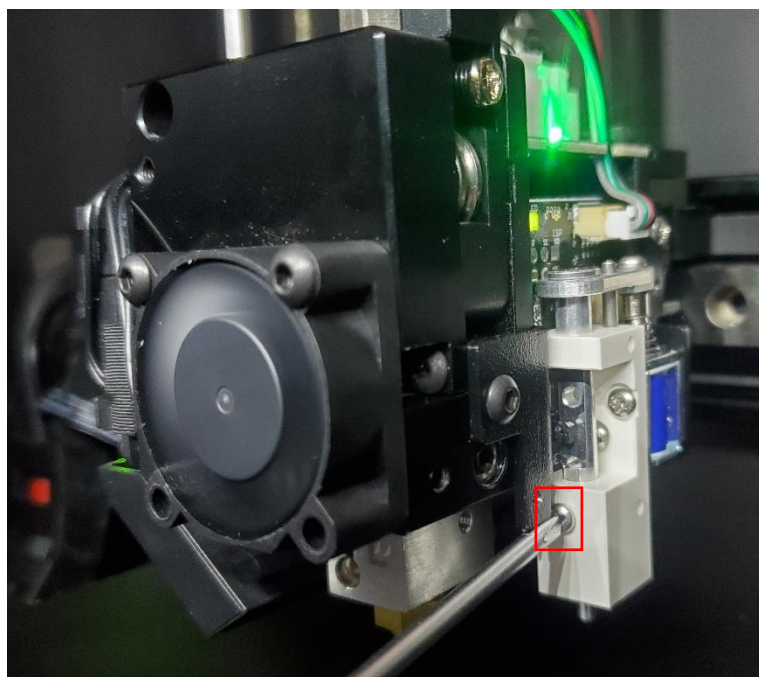

Figure 10: Remove the Phillips screw.
5. Remove the Phillips screw on the side of the auto-leveling assembly (refer to **Figure 10**), and repeat Step 4 to run the test GCode file.